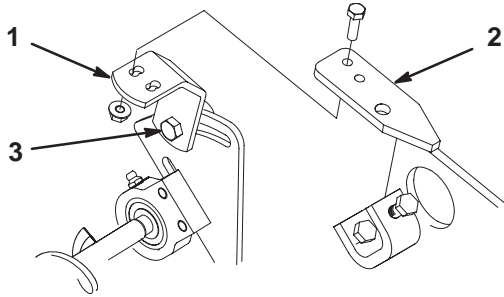

Figure 15
10. Secure the support bracket to the underside of the cutting unit tab with 2 hex head screws (M6) and locknuts. Tighten the screws (Fig. 15).
14. While holding each hex extension with a wrench, tighten each hex head screw to 60 ft.-lb. Tighten the capscrew and flange nut securing the bearing adjustment plate to the support bracket (Fig. 15). Make sure that the brush to roller contact is not disturbed.